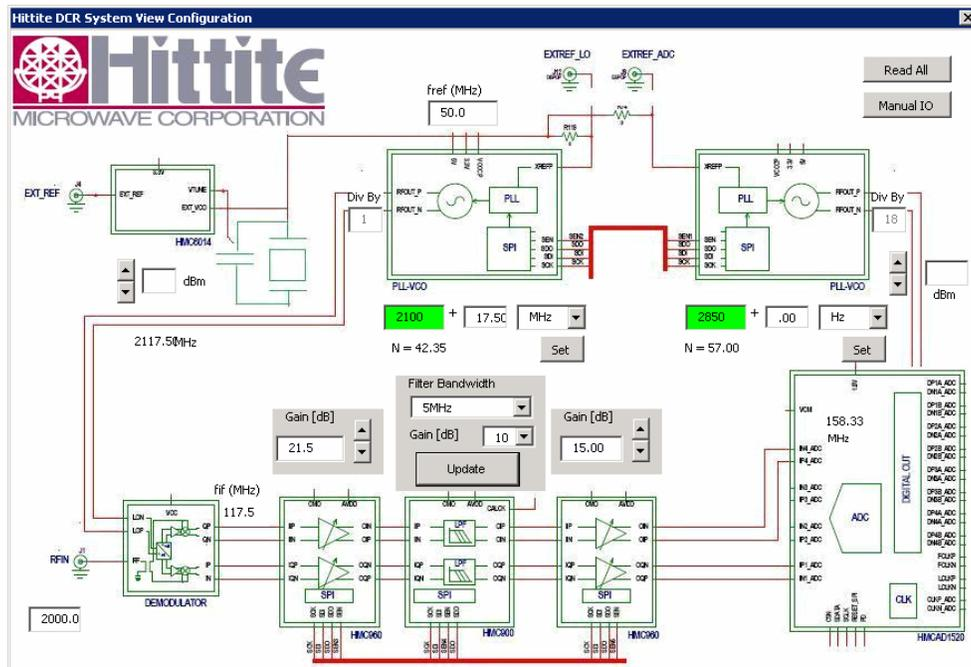
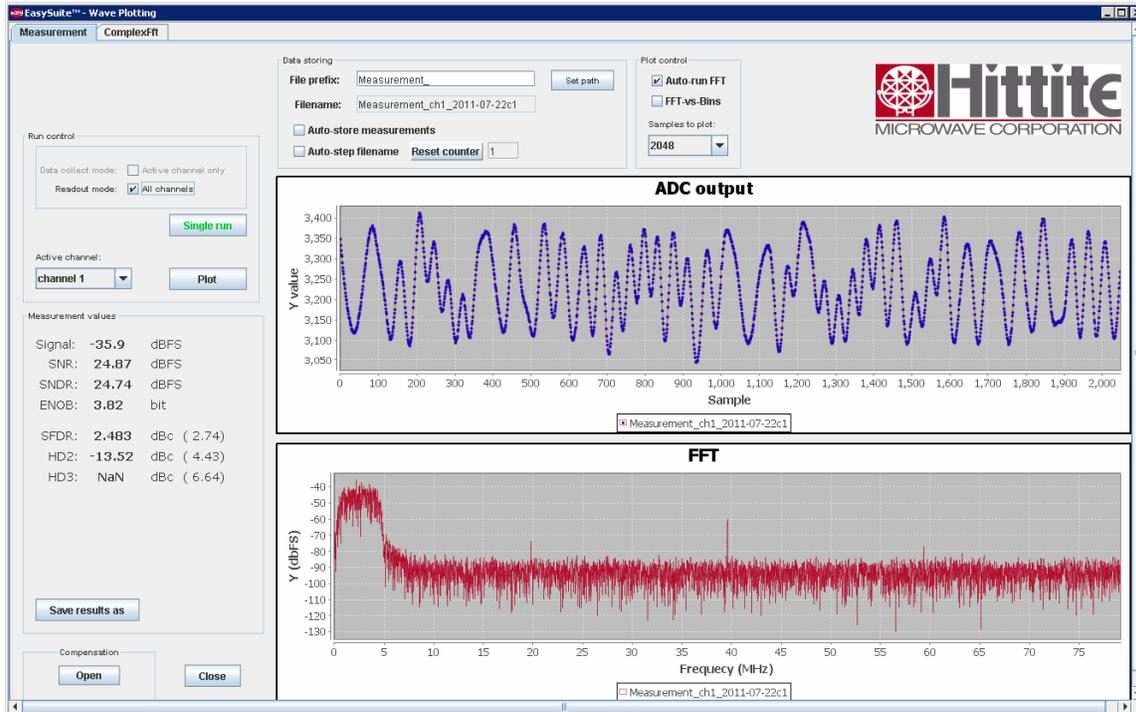
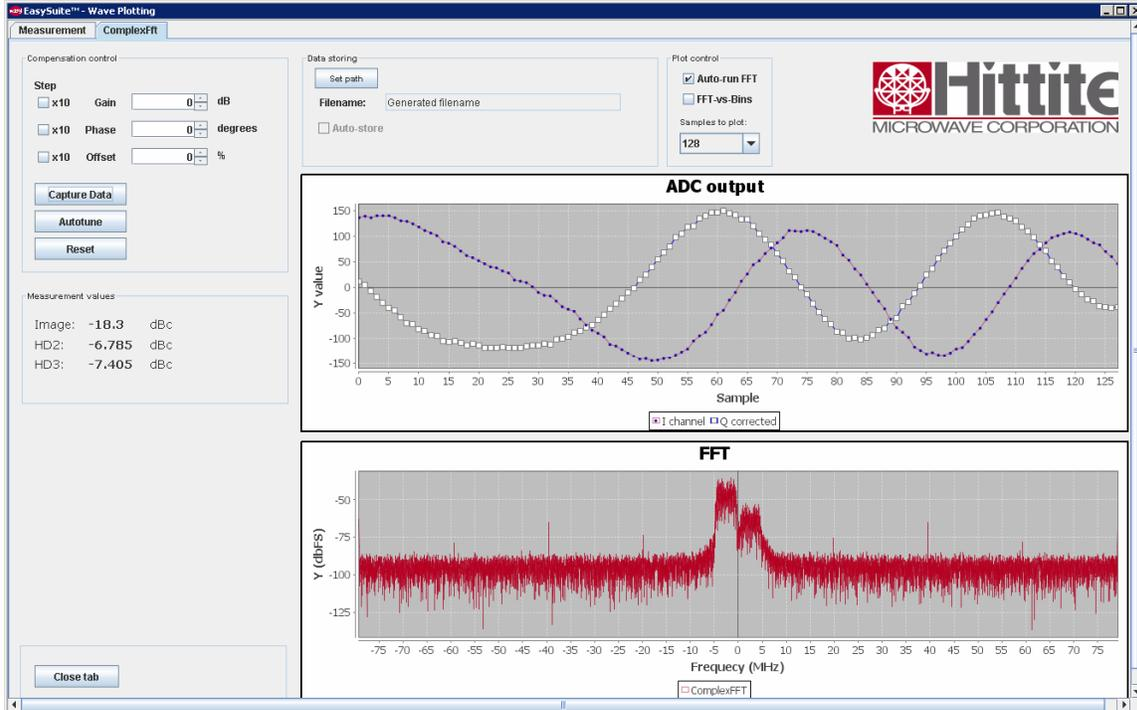

Figure 38. System View dialog showing the measurement setup of the DCR
Figure 39. System View dialog showing observations in the 'Measurement' tab
Figure 43. EasySuite ComplexFft tab after pressing 'Reset' and 'Capture' buttons showing signal and its image
Decreasing the filter bandwidth back to 5 MHz is shown in the System View Configuration dialog in Figure 38. Resulting EasySuite Measurement tab is shown in Figure 39. The plot is identical to Figure 35 earlier. Hittite's DCR includes image rejection receiver calibration. The received signal and its' image are clearly visible from the complex FFT graph available for viewing by clicking on the 'Open' button in 'Compensation' menu in the EasySuite - Wave Plotting dialog ('Measurement' tab). The complex FFT graph and time domain I and Q signals are shown in Figure 40. Figure 40 shows the received signal and its uncalibrated image. The uncalibrated image rejection observed in Figure 40 is around -20 dBc.
24. Remembering calibrated amplitude mismatch of -0.448 dB, and phase mismatch of -7.68 degrees, and maintaining same input signal as in Figure 38, pressing the ‘Reset’ button in the ‘Compensation menu’ of ‘ComplexFft’ tab of EasySuite will recapture new and uncalibrated set of data shown in Figure 43.